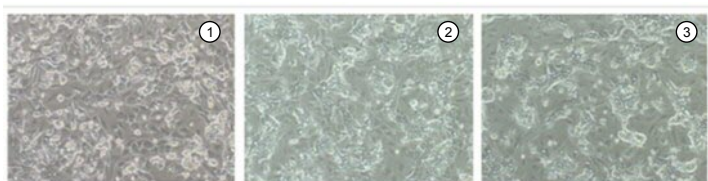

Figure 1 Cell morphology
- After 24 hours of culture, hepatocyte-like cells appear in small, differentiated colonies, individualized (Figure 1, 1).
- After 72–96 hours of culture, a restructuring of cell monolayer can be observed with a hepatocyte-like cells' organization in clusters (Figure 1, 2).
- 120–144 hours after plating, hepatocyte-like cells are organized in well-delineated trabeculae with many bright canaliculi-like structures (Figure 1, 3).